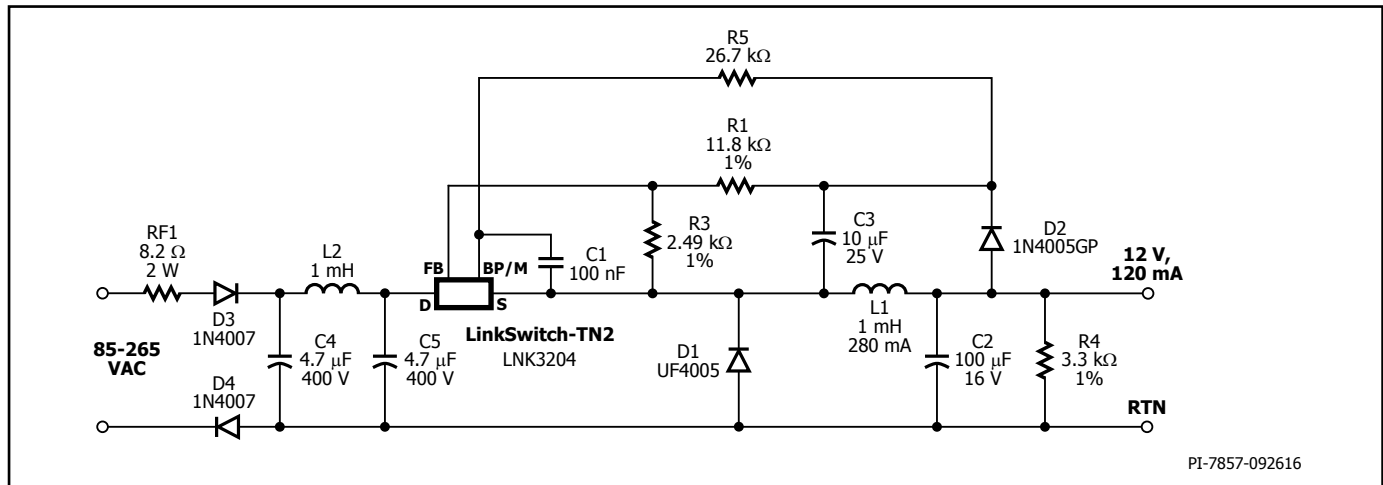
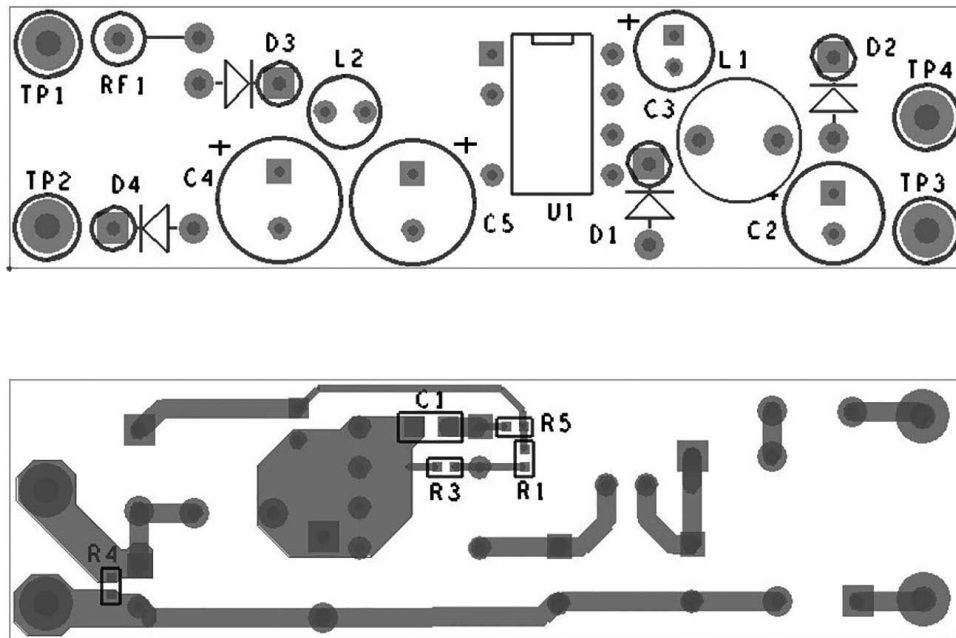

Figure 8. Universal Input, 12 V, 120 mA Constant Voltage Power Supply using LinkSwitch-TN2.
Figure 9a. Recommended Printed Circuit Layout for LinkSwitch-TN2 using P Package.
The circuit shown in Figure 8 is a typical implementation of a 12 V, 120 mA non-isolated power supply used in appliance control such as rice cookers, dishwashers or other white goods. This circuit may also be applicable to other applications such as night-lights, LED drivers, electricity meters, and residential heating controllers, where a non-isolated supply is acceptable.
Regulation is maintained by skipping switching cycles. As the output voltage rises, the current into the FEEDBACK pin will rise. If this exceeds  $I_{FB}$  then subsequent cycles will be skipped until the current reduces below  $I_{FB}$ . Thus, as the output load is reduced, more cycles will be skipped and if the load increases, fewer cycles are skipped. To provide overload protection if no cycles are skipped during a 50 ms period, LinkSwitch-TN2 will enter auto-restart, limiting the average output power to approximately 3% of the maximum overload power. Due to tracking errors between the output voltage and the voltage across C3 at light load or no-load, a small pre-load may be required (R4). For the design in Figure 8, if regulation to zero load is required, then this value should be reduced to 2.4 kΩ.
Referring to Figure 8, the following considerations may be helpful in selecting components for a LinkSwitch-TN2 design.
Figures 9a, 9b and 9c are printed circuit board layout design examples for the circuit schematic shown in Figure 8. The loop formed between the LinkSwitch-TN2, inductor (L1), freewheeling diode (D1), and output capacitor (C2) should be kept as small as possible. The BYPASS pin capacitor C1 should be located physically close to the SOURCE (S) and BYPASS (BP) pins. To minimize direct coupling from switching nodes, the LinkSwitch-TN2 should be placed away from AC input lines. It may be advantageous to place capacitors C4 and C5 in-between LinkSwitch-TN2 and the AC input. The second rectifier diode D4 is optional, but may be included for better EMI performance and higher line surge withstand capability.